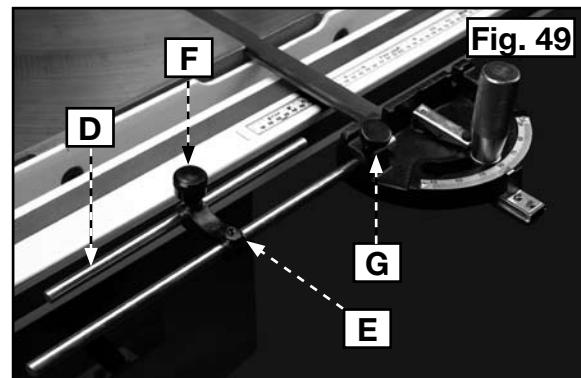

Fig. 49
You can adjust the stop rods (D) Fig. 49 by loosening the set screw (E) or loosening the knob (F). The stop rods can be removed by loosening the knob (G).